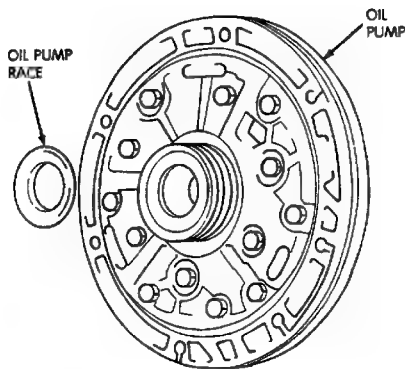

Fig. 16 Removing Oil Pump Race
(24) Remove race from oil pump (Fig. 16).